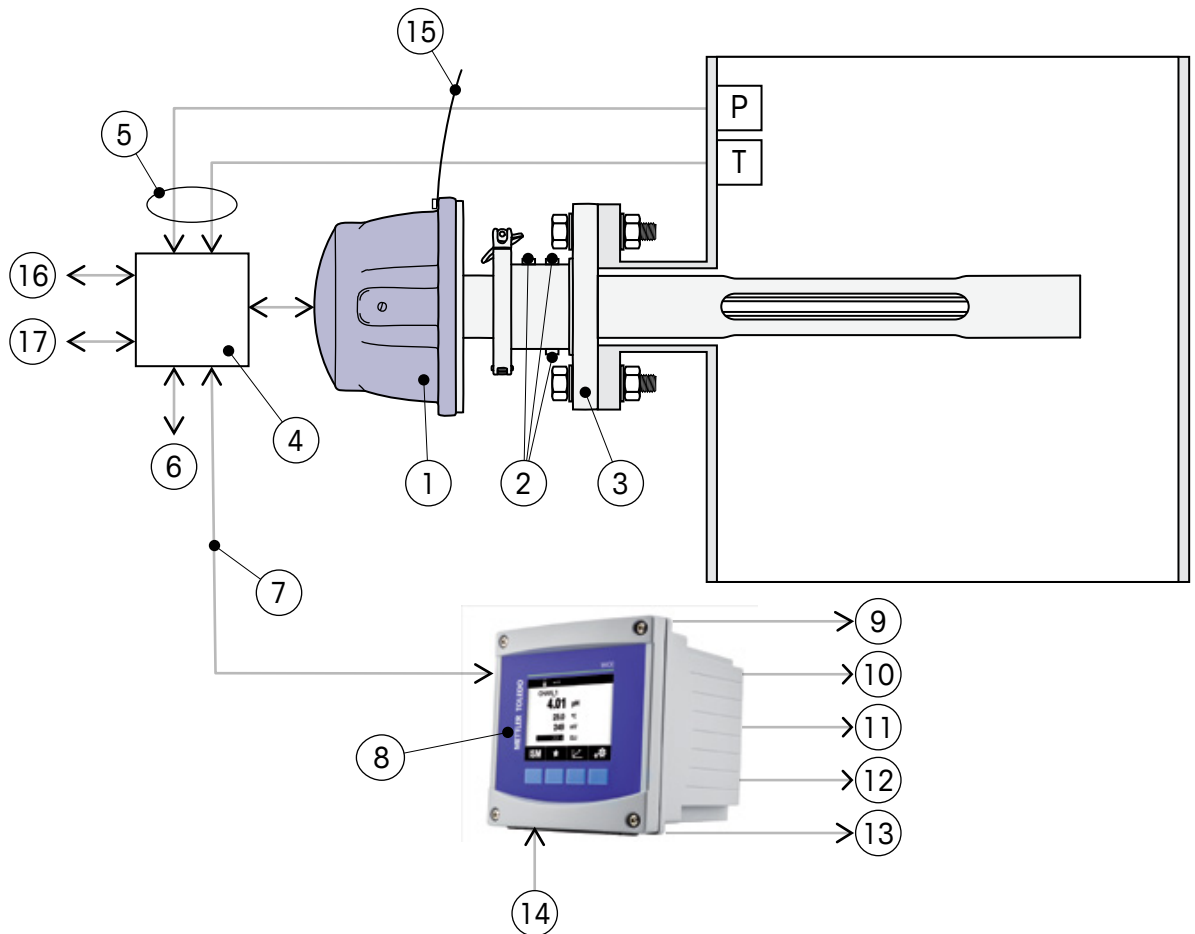

Figure 1 General schematic of standard purge probe (SP) shown.
The GPro 500 TDL normally consists of 4 separate units: the TDL head, process adaption, junction box and the M400 transmitter (user interface). Additionally purging gas, (suitable for the application) and 4–20mA pressure and temperature sensor inputs are required in most cases. The general installation diagrams for purged and non-purged probes, wafer cells and extractive measurements are shown in Figure 1 on page 19.
Alternatively, the GPro 500 is supplied as an additional output version. This version provides 2 x 4...20 mA passive analog outputs directly from the sensor head and offers a full Ex-d solution. In this case an M400 transmitter is not necessary and an M400 should not be connected to the sensor head. To configure the optional direct analog outputs, it is necessary to use the MT-TDL software Suite to configure the GPro 500 during commissioning (using the Ethernet connection to the GPro 500, see item 6 in Figure 1 on page 19). For more information on the MT-TDL Software, please refer to chapter 6 “Service” on page 101.